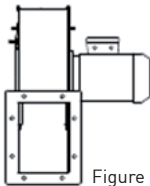

Figure 1
- The fan is supplied with direct flanged coupling to the motor (see figure 1)